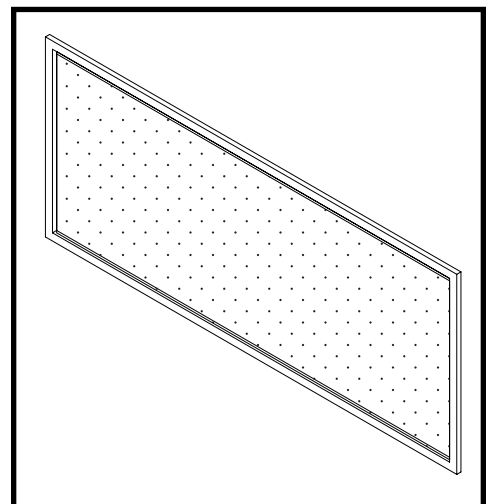

Figure 75: TCWS38 Safety barrier screen.
- Attach the magnetic safety barrier screen (Figure 75) to the outer-most door frame.